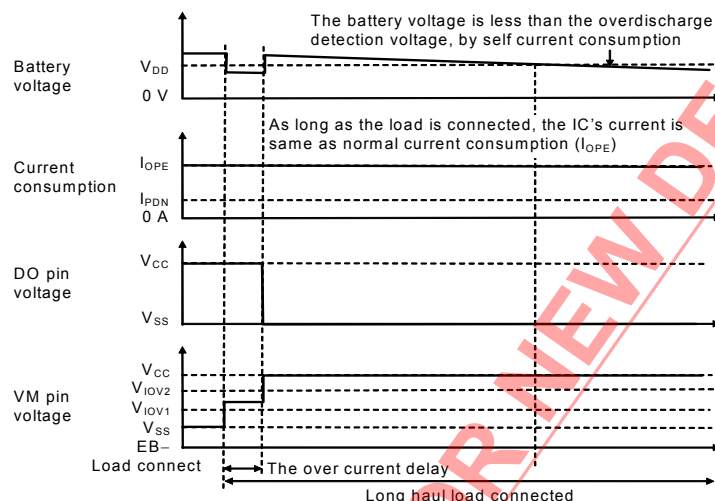

Figure 11
- After the overcurrent detection, the load was connected for a long time, even if one of the battery voltage became lower than overdischarge detection voltage ($V_{DD1, 2}$), the IC can't detect the overdischarge as long as the load is connected. Therefore the IC's current consumption at the one of the battery voltage is lower than the overdischarge detection voltage is same as normal status current consumption (I_{OPE}) (refer to the **Figure 11**).